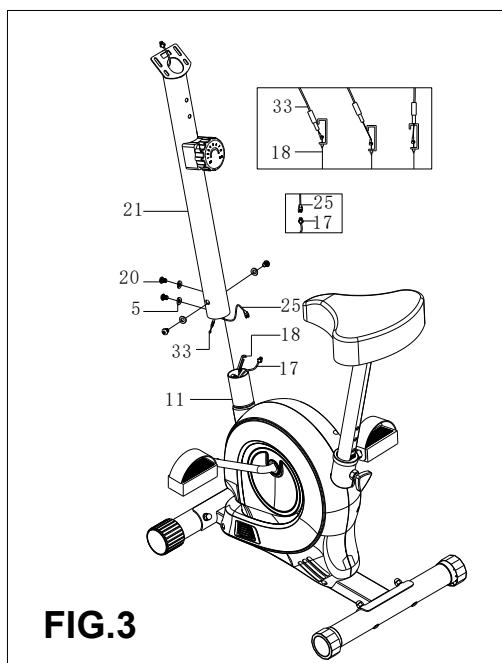

FIG.3:
Connect the Sensor Wire (17) and middle line (25). Connect Tension Control wire (18) and (33) as shown in FIG.3. Fix the Upright Post (21) to the Main Frame (11) with Bolt (20) and Arc Washer (5).